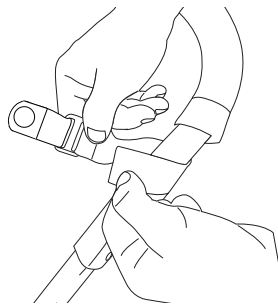
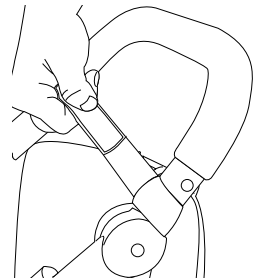

Fig. 4
Fig. 4A
8. To attach parent organizer take velcro strap, wrap around jogger handle and put strap through clip (Fig. 4). Pull strap tight (Fig. 4A), and make sure velcro section is attached (Fig. 4B). Repeat on opposite handle until parent organizer is attached.